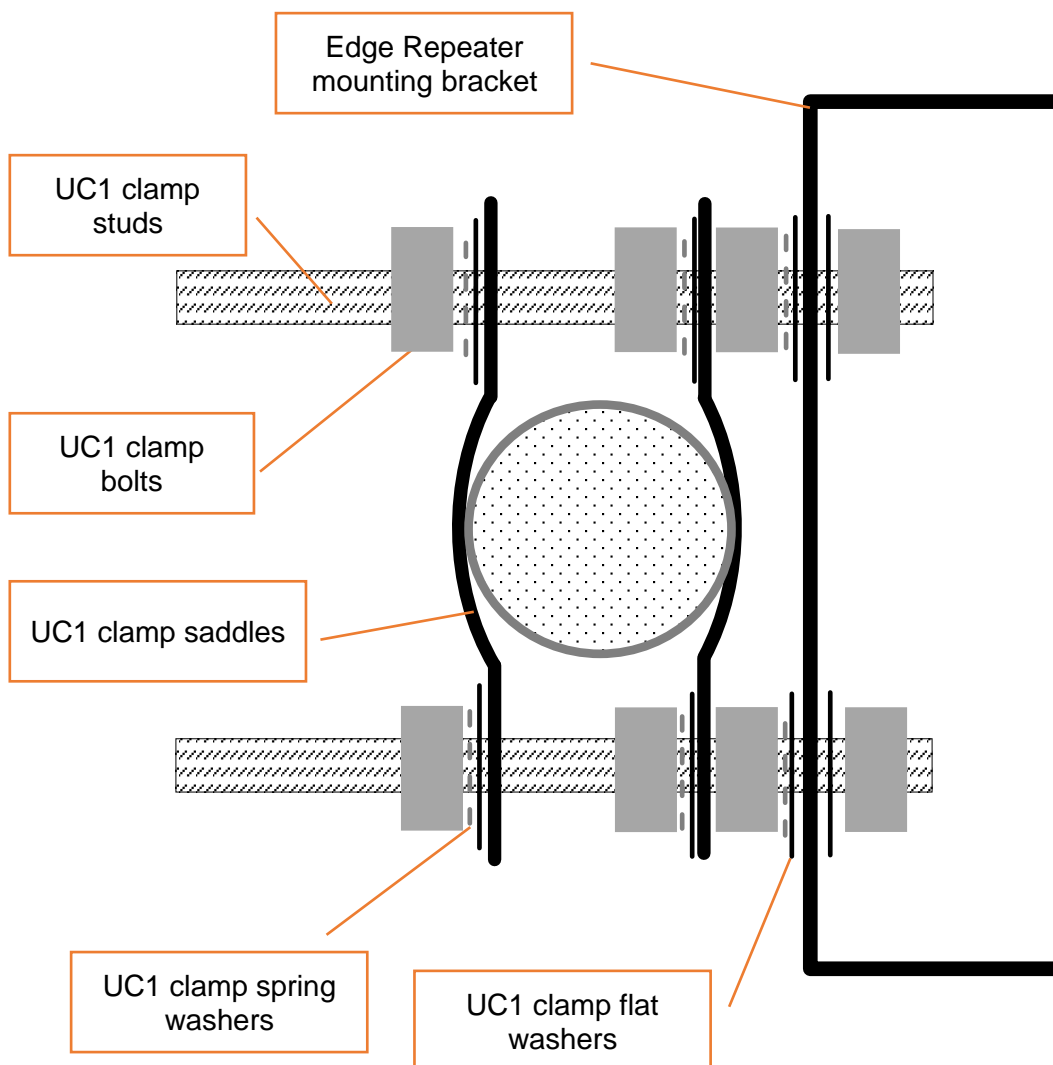
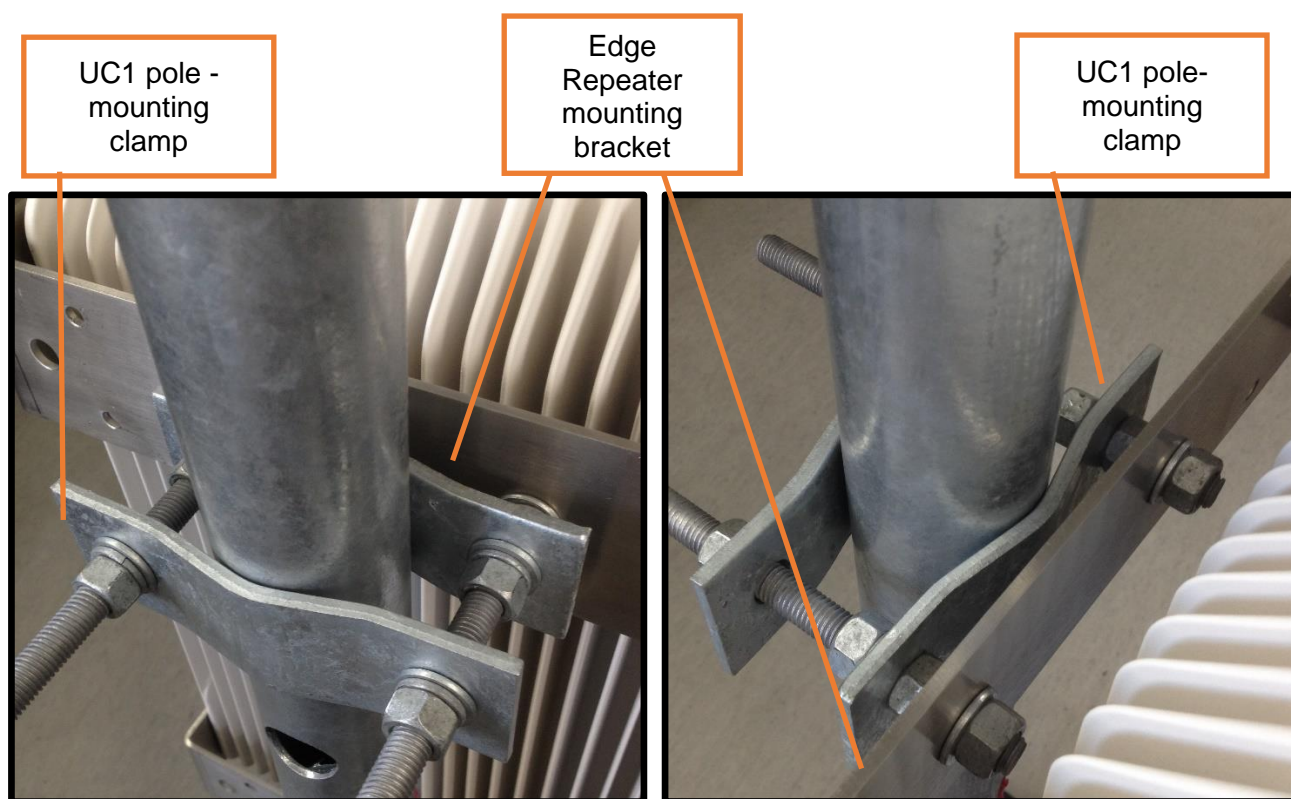

Figure 5: Plan view, Pole mount assembly step 0.
Figure 6: Pole mount bracket and clamp assembly.
- 4.3.3 Attach the mounting bracket and clamp assembly from 0 to the mounting pole as the top mounting bracket and clamp assembly, using the remaining components of the UC1 clamp assembly as shown in Figure 5 & Figure 6. Tighten the M12 bolts to a torque of 30 Nm;